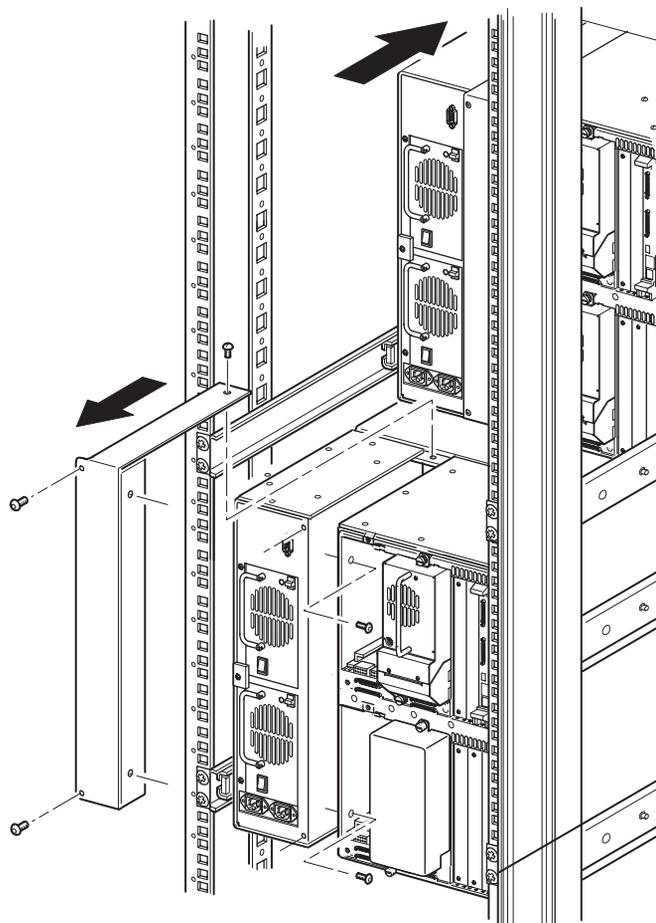

Figure 12: Removing a PTM cover plate (10U models)
Note: Each library needs to be pulled out sequentially from the front of the rack enclosure to gain access to the top PTM cover plate screw on a lower library. See Figure 12 on page 34 for screw locations.
- c. Using a #2 Phillips screwdriver, remove the screws that secure the PTM cover plate to the rear of each library chassis (see Figure 12 on page 34).